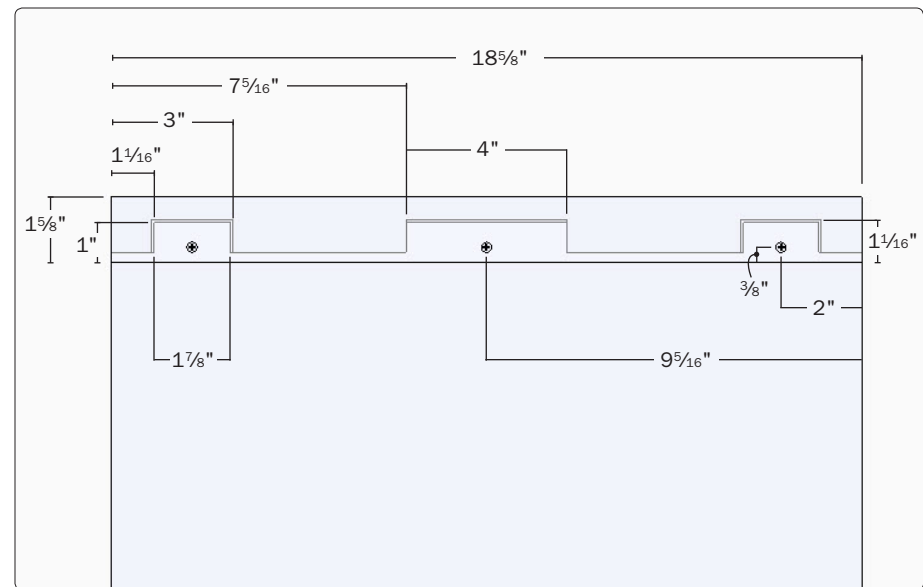

Figure 41. Dimensions for the mortises in the breadboard end.
Step 37 Figure 41 is an orthographic view of the breadboard, giving all the necessary dimensions for the position of the mortises and peg holes. Refer to this figure as needed when you shape the component.